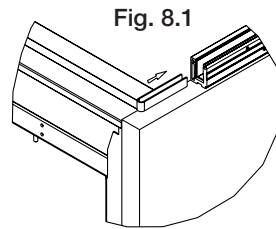
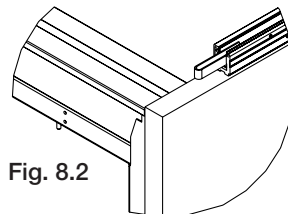

Fig. 8.1
Fig. 8.2
8. Assembly Tip for non-1/2" material. Take the short piece of the bottom spacer, cut it in half and then fold it as shown in **Fig. 8.1**. Insert it between the two glass filler strips. (**Fig. 8.2**) This will hold the filler strips in place during glass install.